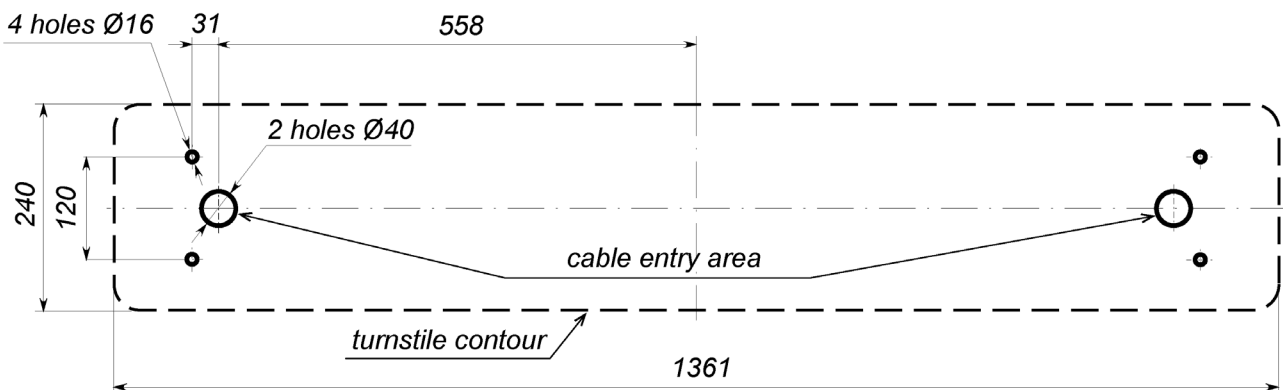

Figure 15. Marking layout for the TTD-10A turnstile housing installation¹
2. Drill holes for anchor sleeves in the floor to fix the turnstile housing in accordance with Fig. 15.